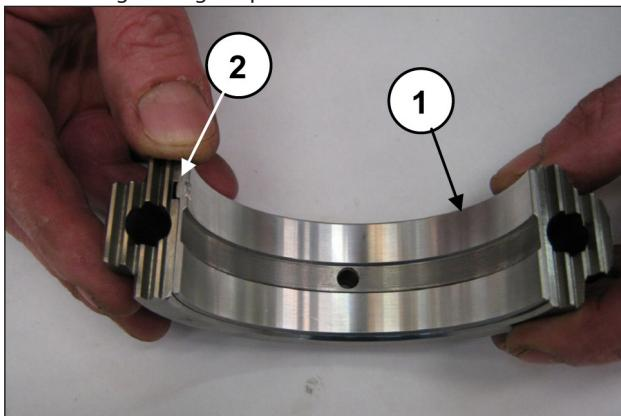
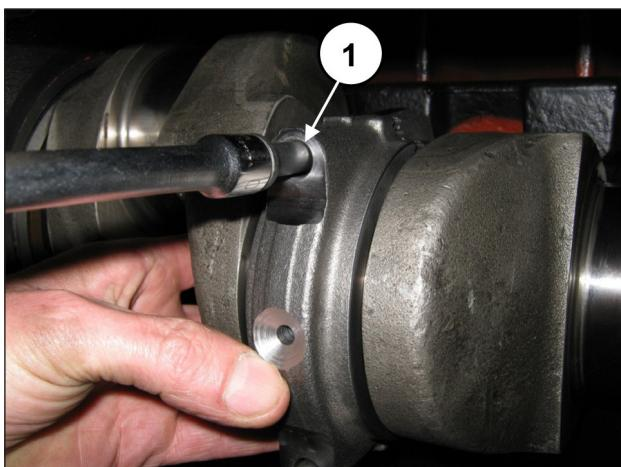

Fig. 69
Fig. 70
Apply the lower half-bearings to the caps (pos. ①, Fig. 69) ensuring that the half-bearing reference notches are positioned in their housing on the cap (pos. ②, Fig. 69). Fasten the caps to the conrods by means of M10x1.5x80 screws (pos. ①, Fig. 70).